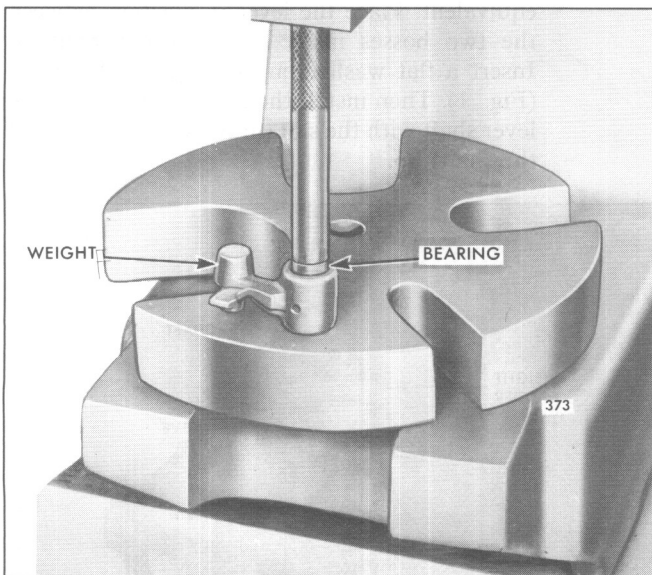

Fig. 20 - Installing Bearings in Governor Weight using Tool J 8985
- d. Insert the pilot end of installer J 8985 in the bearing and under the ram of the press as shown in Fig. 20. Then press the bearing straight in the weight until it is flush with the top of the weight. Reverse the weight on the press and install the second bearing in the same manner.